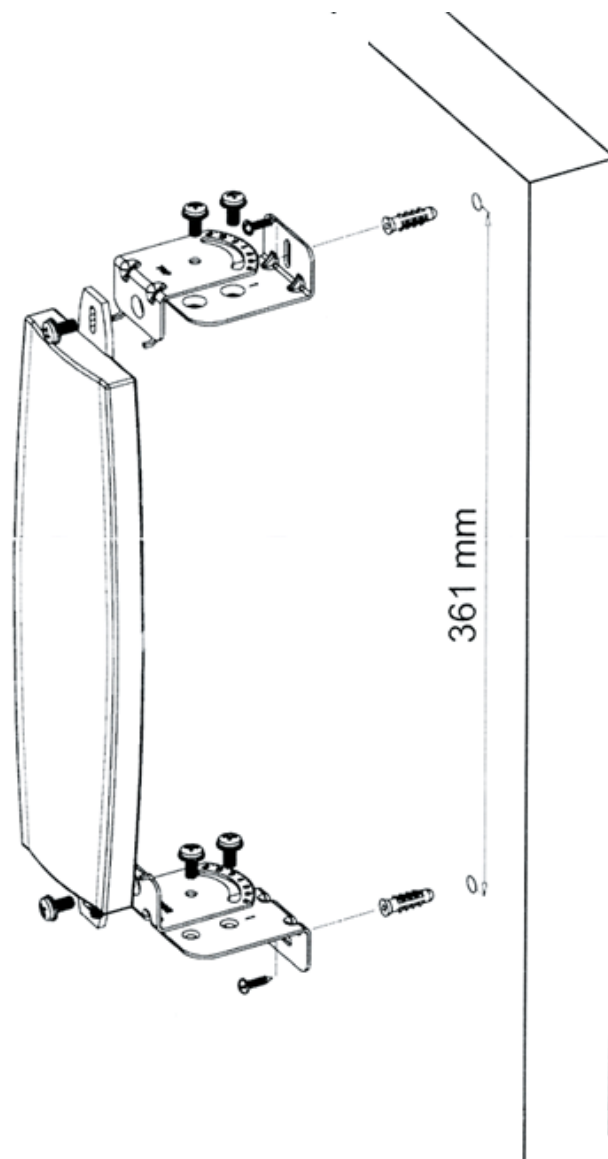

Figure 2-16: Wall Mount with Rotation Capability
- 2 Assemble the top L-type plate with the Wall-V L-type plate. Note, the Wall-V plate is the one with the vertical ellipse on the short side. Make sure the inscriptions are facing upwards. Use two M5 screws to fasten the plates together. Do not over tighten. See Figure 2-16.